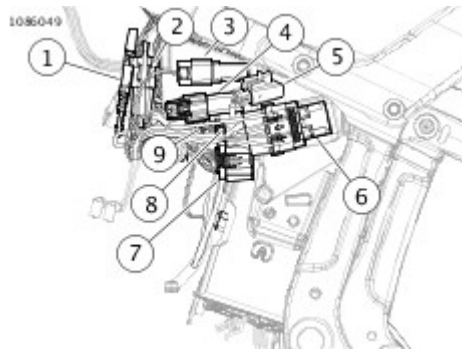

Figure 1. Digital Multimeter (Fluke 78)
1. See **Figure 1**. Connect **DIGITAL MULTIMETER (FLUKE 78) (Part Number:HD-39978)** to wiring harness between suspect connections. When diagnosing ECM connections, use **BREAKOUT BOX (Part Number:HD-50390-1)**, **ECM CABLE (Part Number:HD-50390-4)** and **ECM OVERLAY (Part Number:HD-50390-4-P)** to simplify the procedure. See **How To Use Diagnostic Tools**.